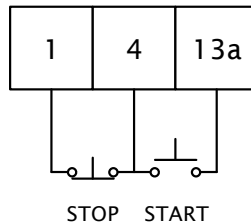

Figure 6.11: Three-wire control
1. Wire the RED and GREEN momentary pushbuttons as shown in Figure 6.11.